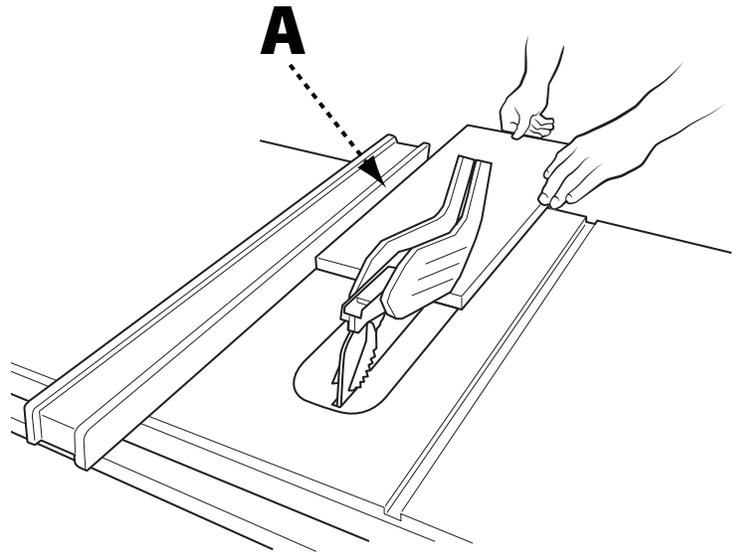

FIGURE 26
8. Hold the workpiece flat on the table and against the fence (A). The workpiece must have a straight edge against the fence and must not be warped, twisted or bowed. See proper hand position in Figure 26.